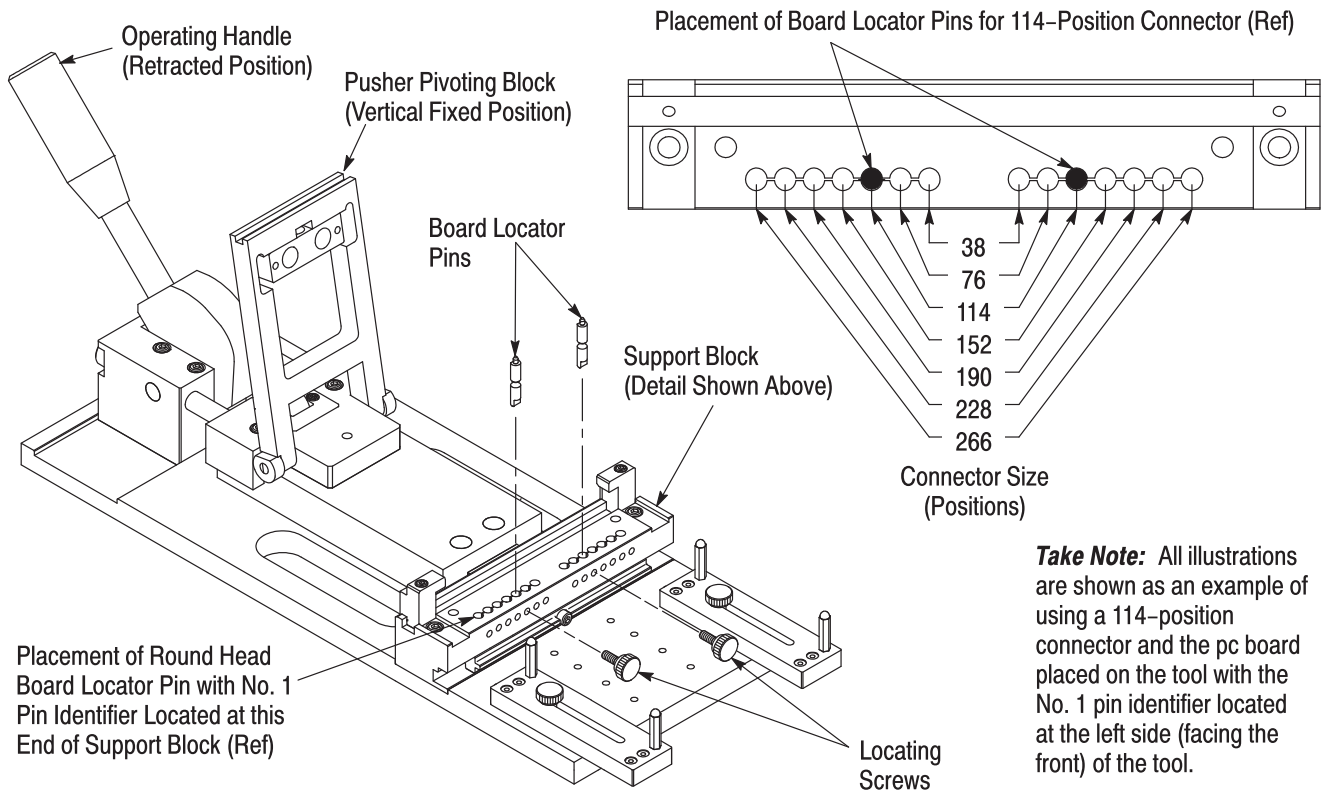

Figure 2
**CAUTION** *To avoid damage to tooling, setup procedures must be performed with the operating handle in its retracted position and the pusher pivoting block in its vertical fixed position. See Figure 2.*
**3.1. Size of Connector** (Figure 2)
2. Lift the two board locator pins out of the holes in the top of the support block and re-install them into the appropriate holes according to the size of the connector being used (refer to Figure 2). Twist the pins until they drop into position and are firmly seated, then turn the pins until they are snug.
3. Re-install the two locating screws into the holes in the support block that align with the board locator pins as shown in Figure 2. Tighten the screws.